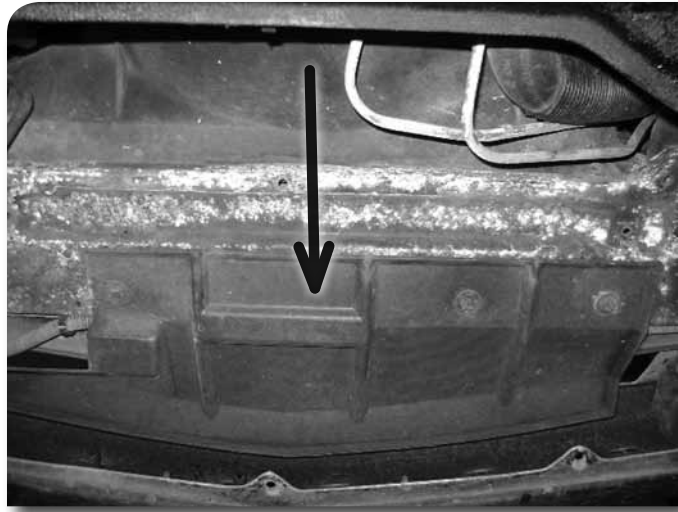

Figure 2
6. Remove lower shroud located between the radiator and the front bumper. **Figure 2** This provides access to the inside bumper bolts.